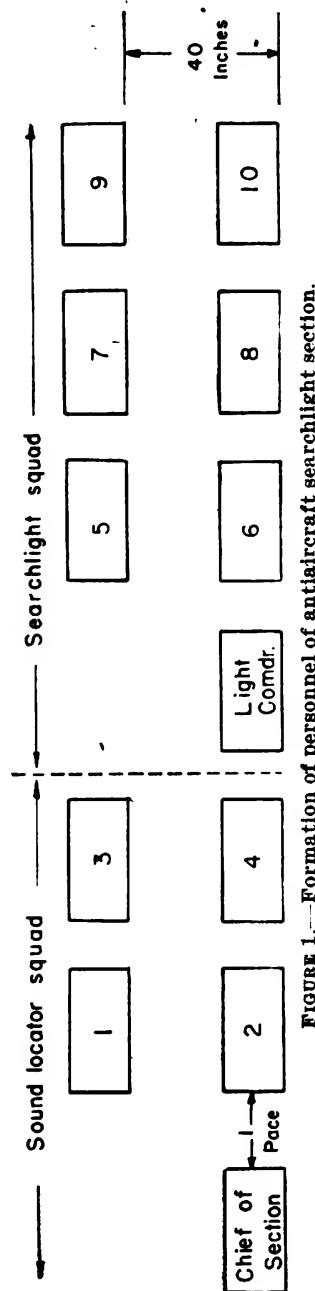

FIGURE 1.—Formation of personnel of antiaircraft searchlight section.
- (1) The sound locator squad.
- (2) The searchlight squad.
**Q.** Of what personnel does the sound locator squad consist? **A.** See figure 1.
**Q.** Of what personnel does the searchlight squad consist?—**A.** See figure 1.